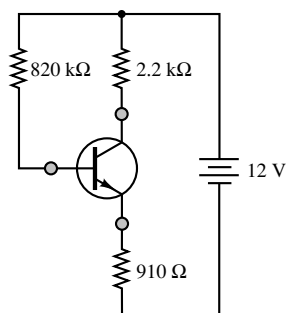

Figure P10.3
- 10.3** Given the circuit of Figure P10.3, determine the operating point of the transistor. Assume the BJT is a